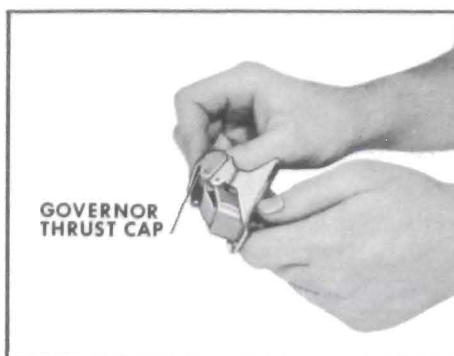

Figure 5-243
3. Remove governor thrust cap. See Figure 5-243.